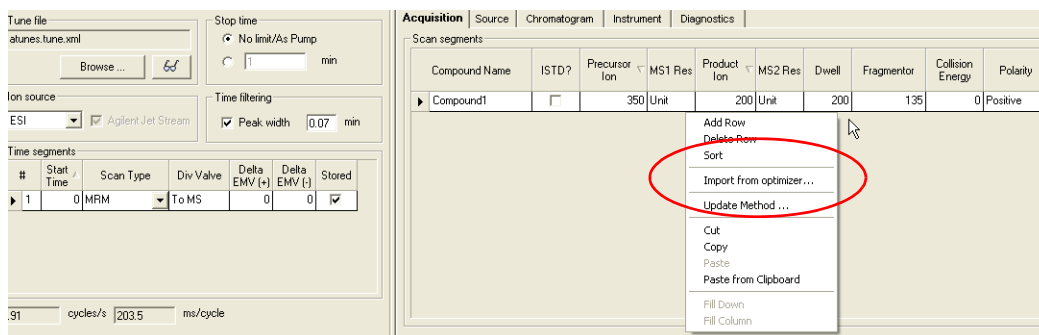

Figure 5 Import from optimizer shown in the Acquisition tab shortcut menu.
- 4 Right-click an empty area on the Acquisition tab, then click **Import from optimizer** in the shortcut menu. See Figure 5.